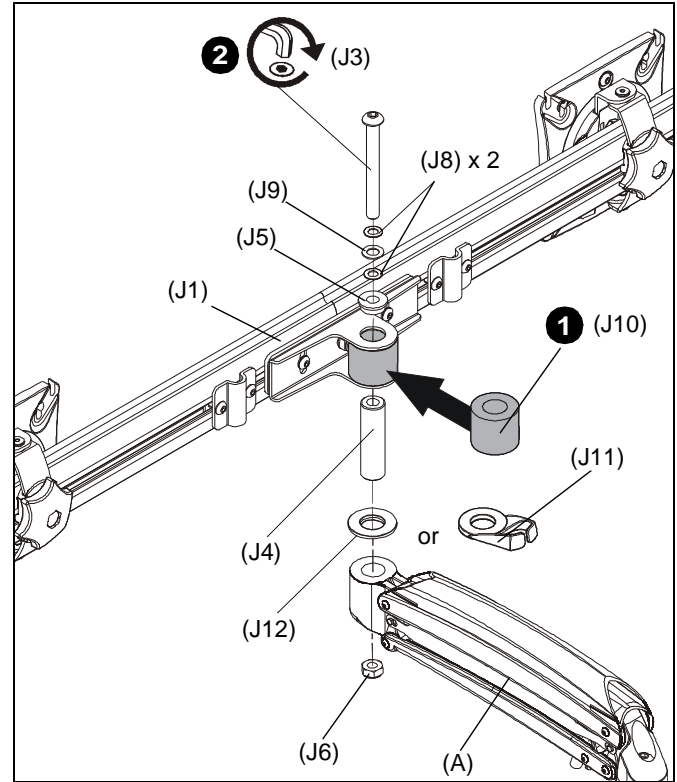

Figure 2
1. Slide rotational spacer (J10) into opening on array attachment bracket. (See Figure 2)
2. Use 5/16-18 x 3" button head cap screw (J3), two thin steel washers (J8), plastic spacer (J9), pocket washer (J5), pivot pin (J4), pivot point spacer (J12) and 5/16-18 lock nut (J6) to secure array (J1) to K1 arm (A). (See Figure 2)
**NOTE:** Cable clip (J11) can be used in place of pivot point spacer (J12) if additional cable management is desired. (See Figure 2)